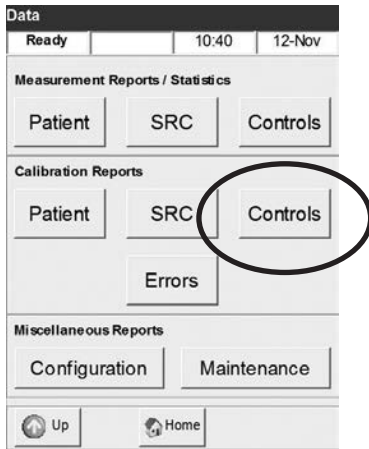

Fig. 7-49 Select Control
- To print a controls report, select **<Calibration Reports ->Controls>** in the **<Data>** screen (Fig. 7-49).